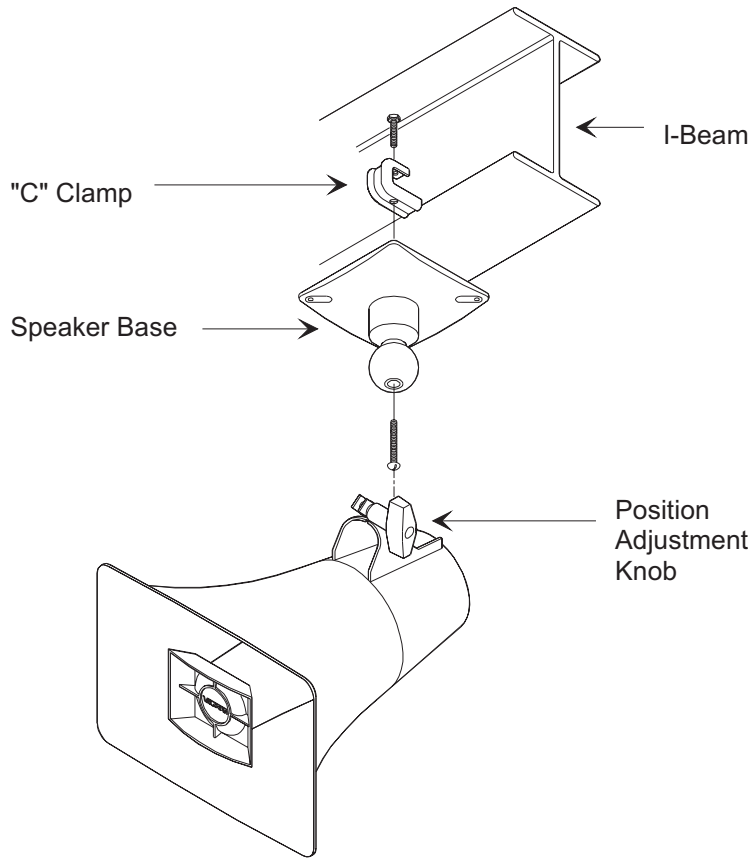

Figure 1 - Mounting to a Beam with a "C" Clamp
- A "C" clamp is provided with the horns to allow mounting to a beam. Place the bolt through the hole in the bottom of the base to secure the "C" clamp to the beam (See Figure 1). It is suggested that the horn be mounted to the underside of the "I" beam so as to provide the maximum of positioning adjustments.
The horns may be rotated or moved up and down to obtain the desired position by loosening the position adjustment knob (See Figures 1 and 2) at the bottom of the unit approximately 1 turn. Make required adjustments and re-tighten knob.